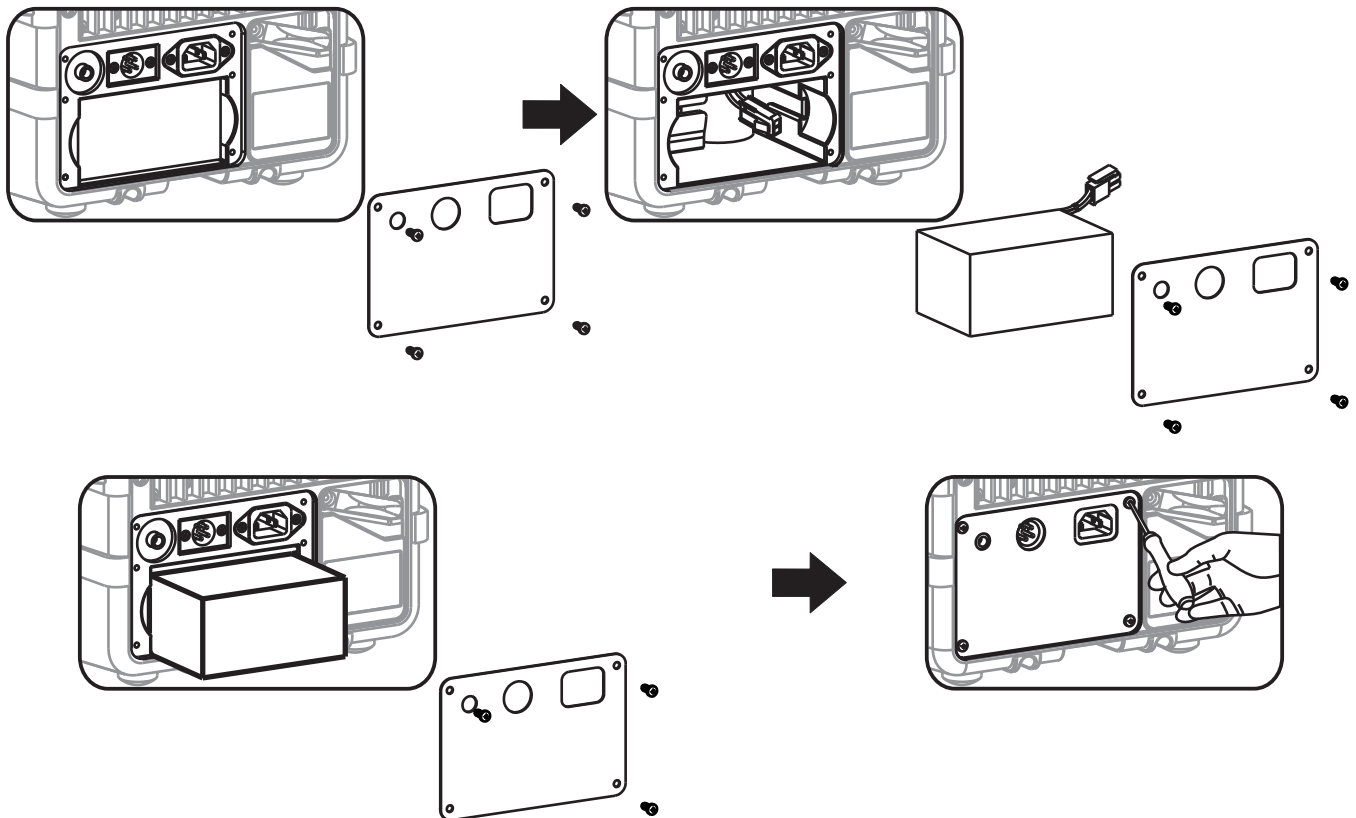

Fig. 9
V. Replace Battery. Fig. 9
1. Remove screws from Battery Cover ⑳ plate by using a Phillips-head screwdriver (not supplied).